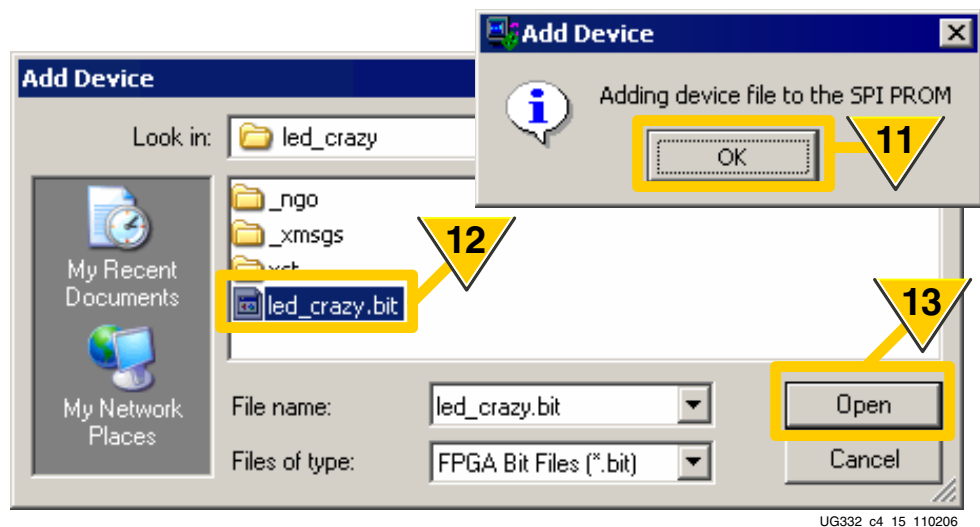

Figure 4-14: Add FPGA Configuration Bitstream File(s)
- As shown in Figure 4-14, click OK to start adding FPGA configuration bitstreams to the PROM image.